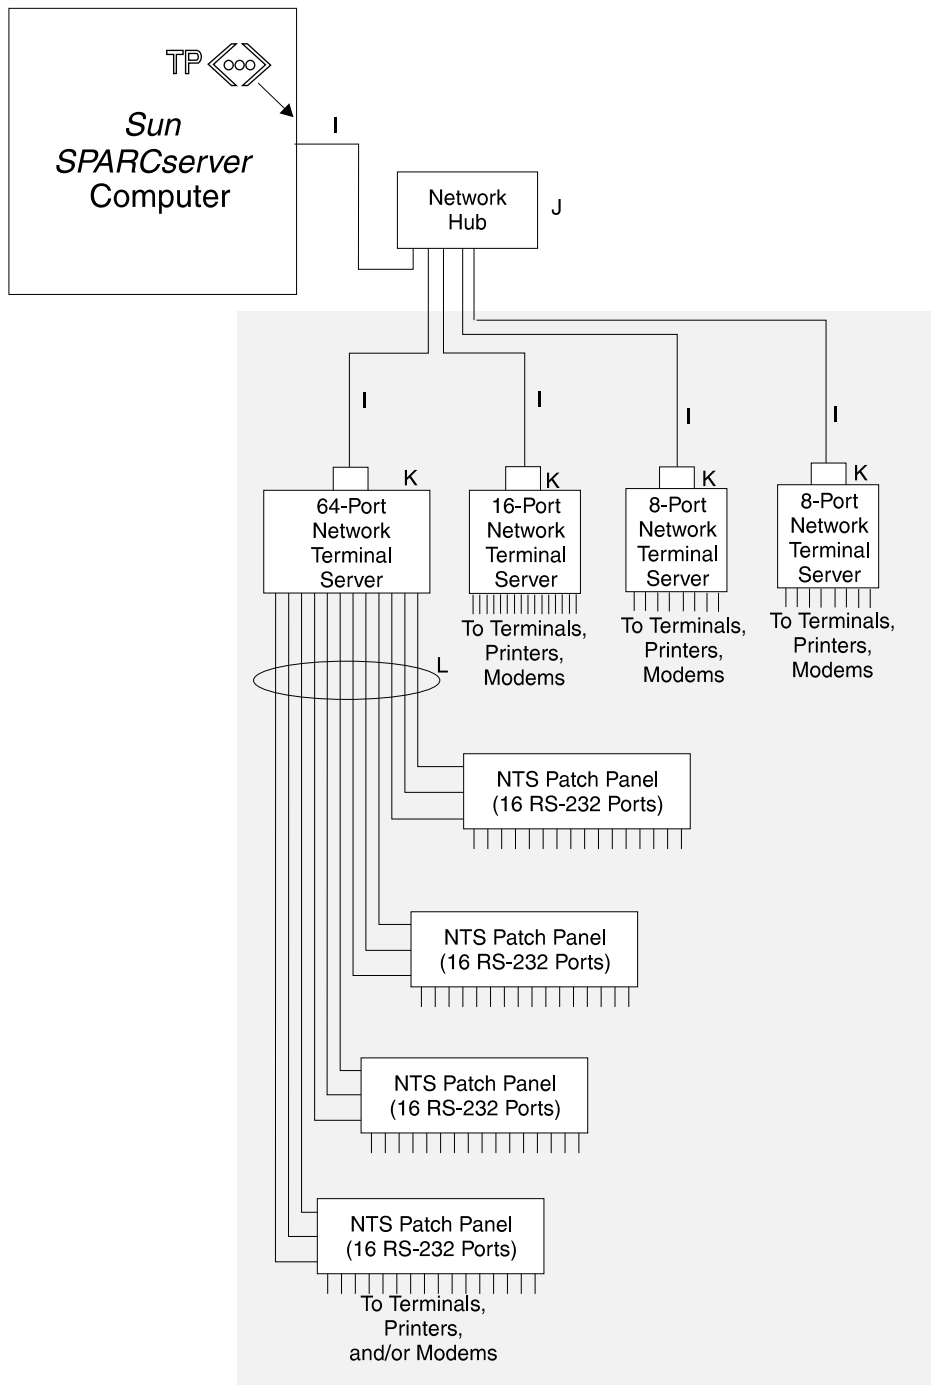

Figure D-53: Network Terminal Server Connectivity
7. Replace the back panel of the 64-Port NTS (to its original position) by sliding it toward the front of the NTS. See Figure D-53 for a graphical view of the Network Terminal Server connectivity.